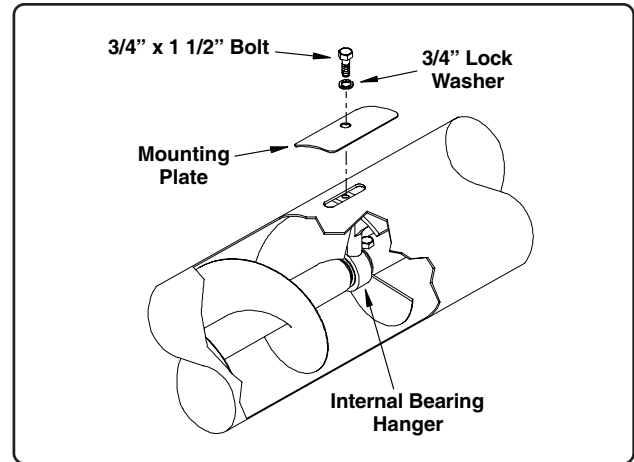

Fig. 46
- Secure the bearing hanger using one mounting plate and one 5/8" x 1 1/2" bolt and lock washer (See Fig. 46). Repeat these steps for all remaining flights and bearing hangers.